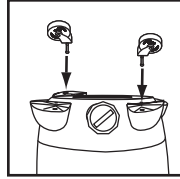

FIGURE 7
6. Take flat washer and place over stem of caster. Insert casters into feet by placing stem of caster into holes provided. Apply pressure and twisting motion until casters snap into place. **FIGURE 7.**